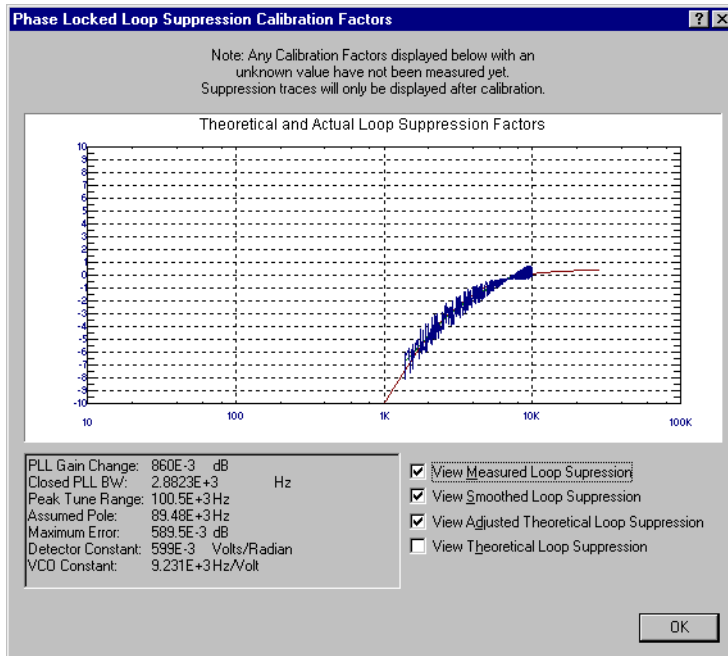

Figure 7-21 SelectingSuppressions
- 2 When the PLL Suppression Curve dialog box appears, select **View Measured Loop Suppression**, **View Smoothed Loop Suppression**, and **View Adjusted Loop Suppression**. See Figure 7-21.